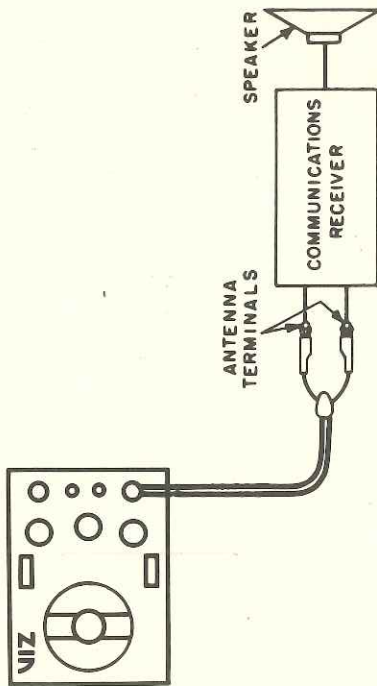

Figure 17. Recommended test setup for alignment of WR-50C
2. Connect the equipment as shown in Figure 17. Plug the 100 kHz crystal into the WR-50C socket. Turn the "% MOD" switch fully counterclockwise, and the "VFO" switch to "OFF".